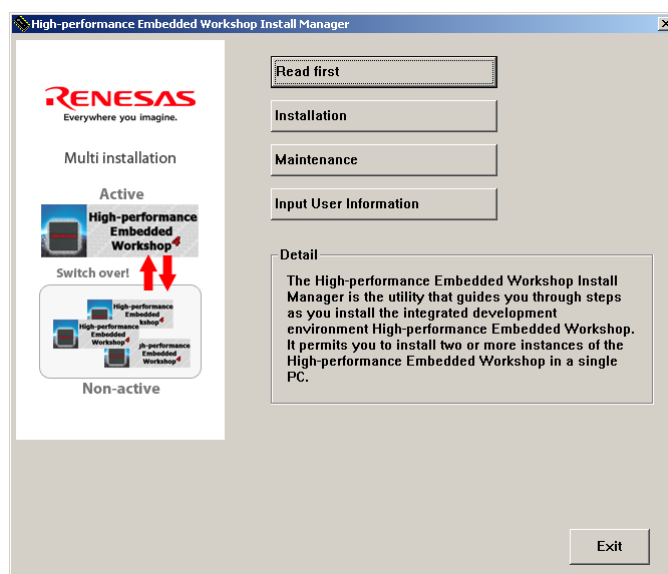

Figure 3.1.4 Installation Procedure (4/4)
- (5) Follow the on-screen instructions to continue installation. When all installation is completed, the following window will appear as Figure 3.1.4. Click "Exit".